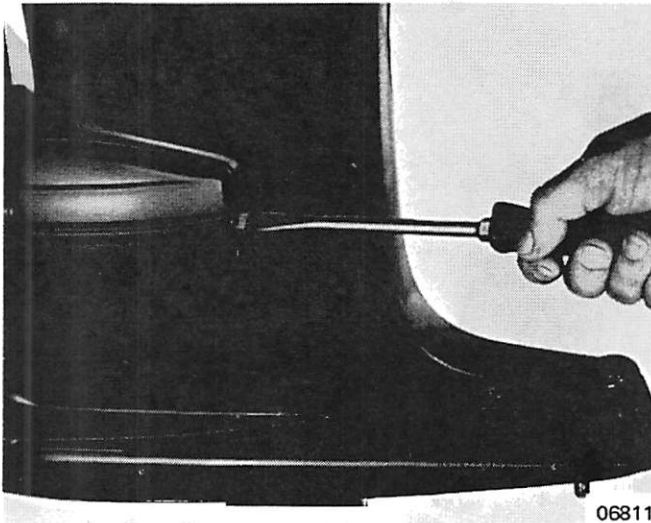

Figure 2. Removing Covers
2. Remove Dyna-Float mount covers. (Figure 2)